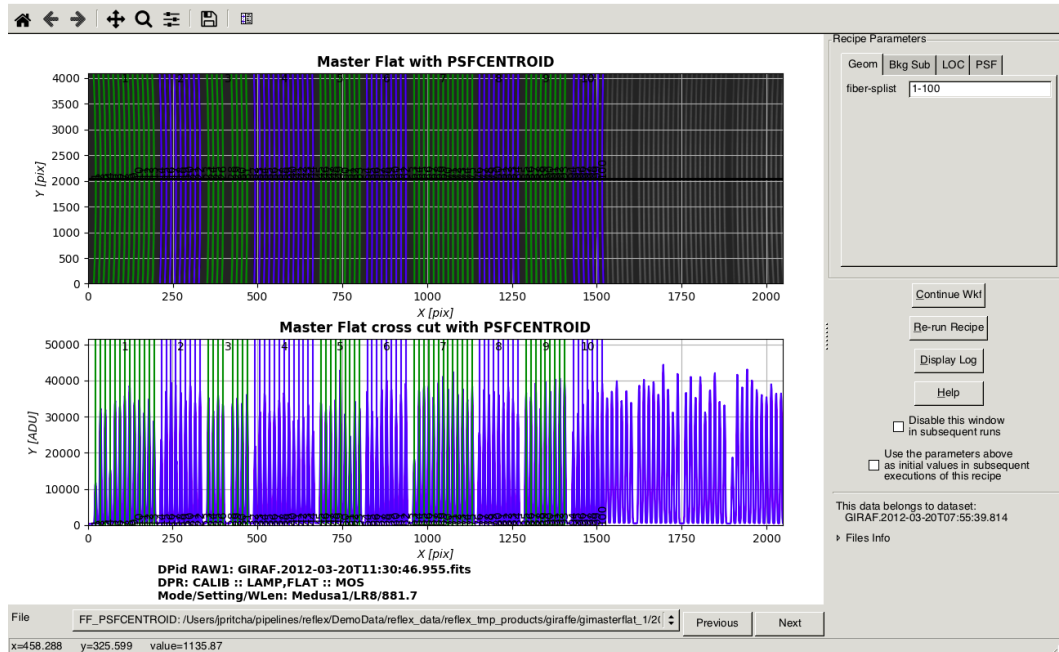

Figure 3.7: The MasterFlat Interactive GUI for the first dataset, after re-running the recipe with *fiber-splint* set to '1-100'.
- Adjust recipe parameters:** Let's begin with something simple, but clear. In the `fiber-splint` field, replace the text 'setup' with '1-100'. Then click the `Re-run Recipe` button. The GUI window will close and the workflow will re-run the MasterFlat recipe. Eventually the GUI window will re-open, but only the first 100 fibres will now be traced, see figure 3.7.